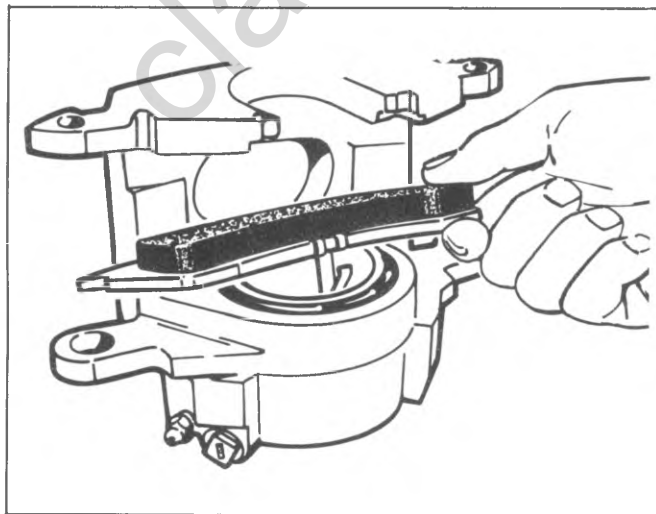

Fig. 5-26--Inserting Shoe Support Spring
3. Install the shoe support spring by replacing the single tang end of the spring over the notch in the center of the edge of the shoe. Then press the two tangs at the spring end of the inboard shoe spring over the bottom edge of the shoe so that they engage the shoe securely, as shown in Figure 5-26.